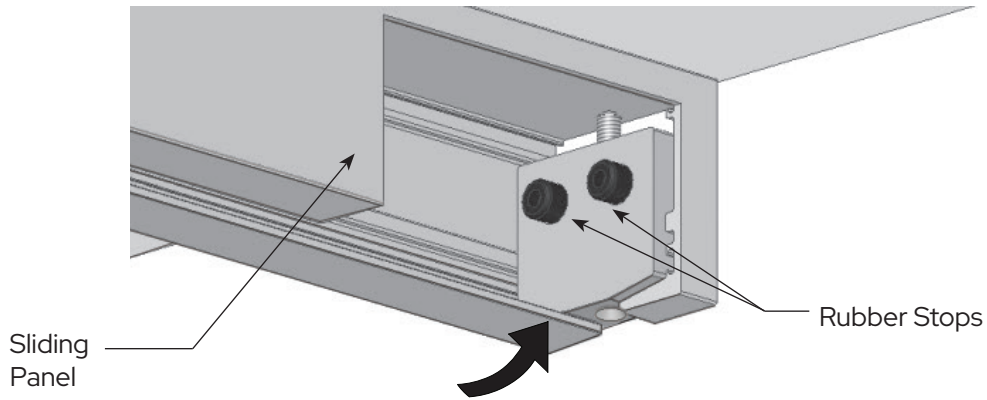

Figure 5
1. Install a Stop at all locations where a Sliding Wall Panel can collide with building structure and Pivoting Doors. Make certain that the Stop's rubber bumpers face toward the Sliding Wall Panels (Fig 5).